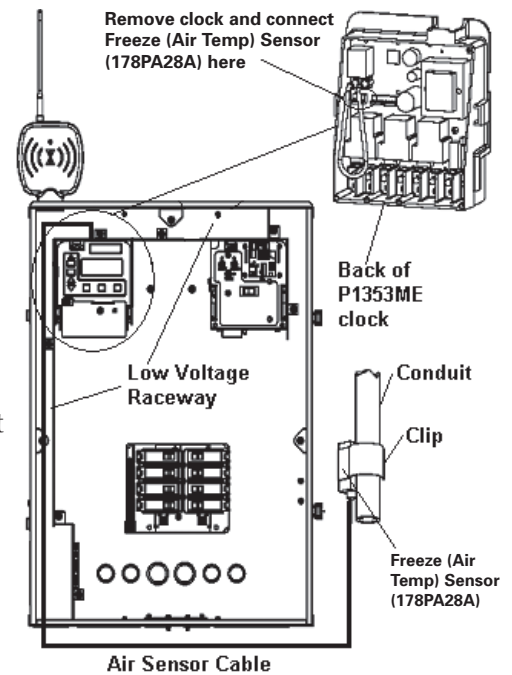

Figure 3-12
2. Run the wire to the Control Center through the low voltage raceway. Connect Air Sensor directly to the back of the three-circuit clock mechanism. (See Figure 3-12.)